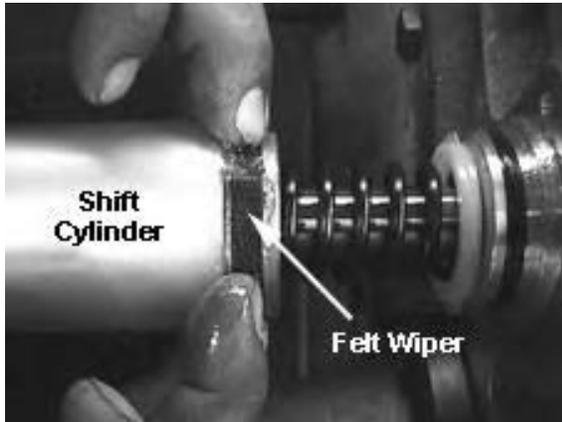

Fig. 90
50. Install an oil soaked felt wiper in the large groove on range shift piston and slide the cylinder onto the piston. See Fig. 90.